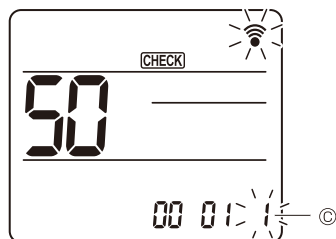

Fig. 4
Use the **DOWN** button to change the Setting number ③. (Fig. 4)